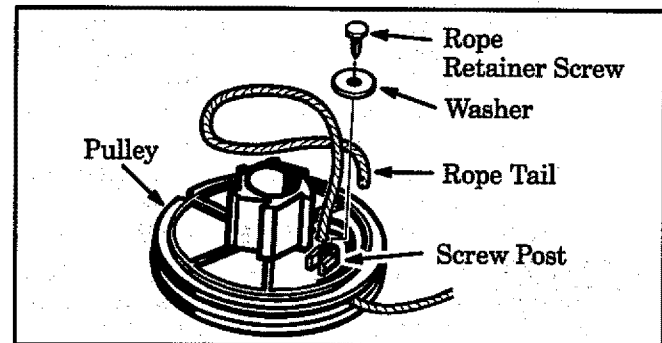

Figure 27
10. Remove the rope retainer screw and remove any remaining rope. Figure 27 .
21. Reinstall rope retainer screw into screw post. Figure 27 . Tighten until the washer is snug.